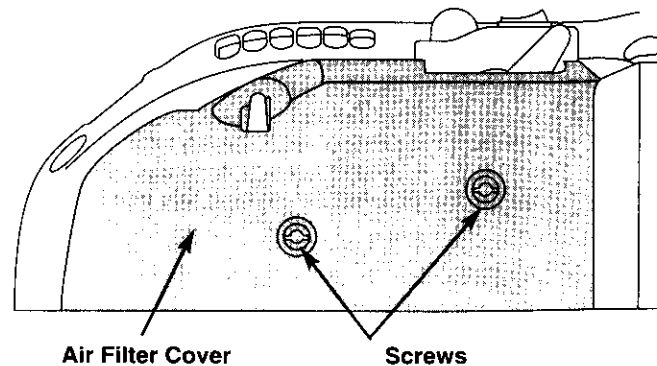
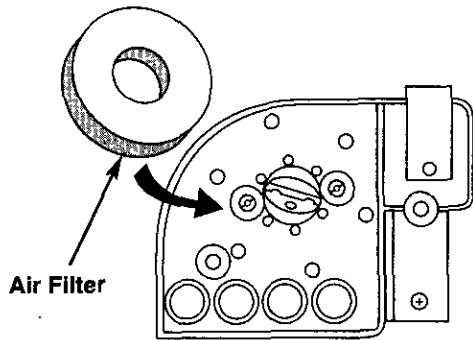

Fig. 17
Fig. 18
2. Remove the screws on each side of the air filter cover. Remove the air filter cover (Fig. 17).
3. Remove the air filter (Fig. 18).
7. Reinstall the filter (Fig. 18), air filter cover and screws (Fig. 17).
6. Reinstall the filter (Fig. 18, Pg. 15), air filter cover and screws (Fig. 17, pg. 14).